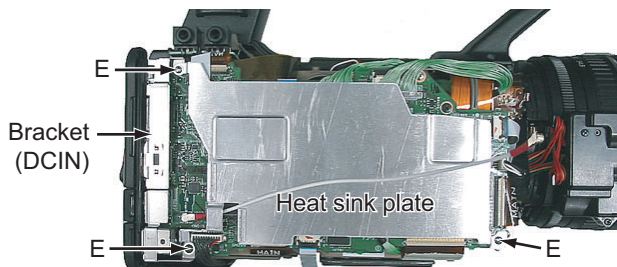

Fig.9
3.1.3 Removing the MAIN board and NETWORK board (See Figure 9 and 10)